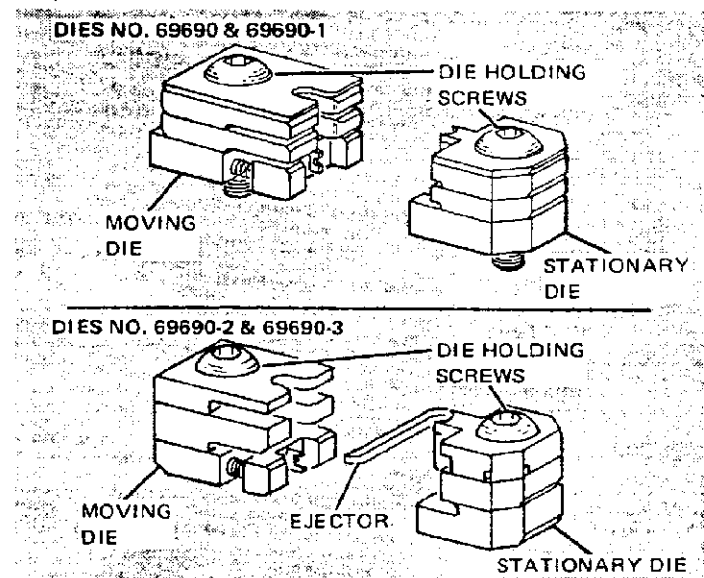

Figure 6
- (b) Each set of dies consists of a moving die and a stationary die. See Figure 6.
- (h) Die assemblies have three sets of crimping dies - one for inner wire barrel of contact, one for braid section of ferrule and another for outer insulation section of ferrule. See Figures 6 and 7. All three crimps are made at the same time.